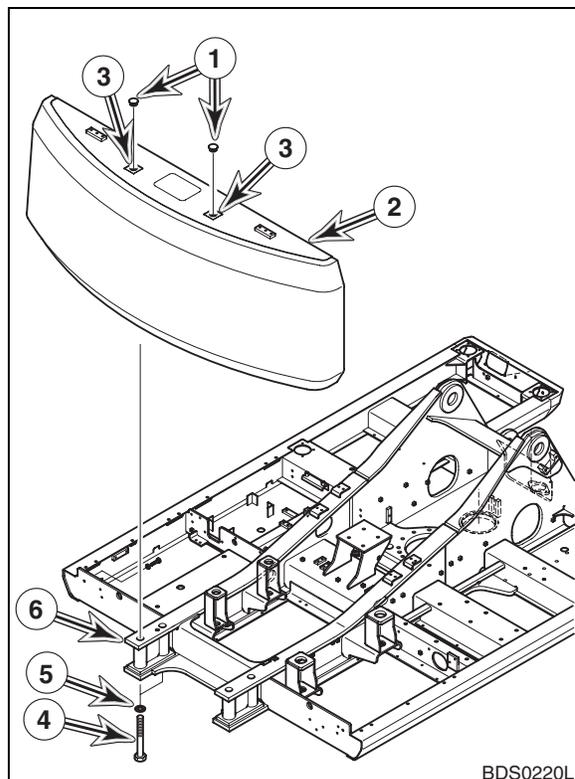

Figure 5
2. Using suitable lifting device capable of handling load, raise counterweight (2, Figure 5) into position just above support frame (6) leaving counterweight suspended. Verify that counterweight is level and even.
**NOTE:** Leave counterweight (2, Figure 5) suspended 3 mm (0.125") above support frame (6) until all four mounting bolts (4) are started in counterweight mounting holes.
3. Slide washers/spacers (5, Figure 5) onto bolts (4). Apply Loctite #242 to mounting bolt threads.
4. Install four bolts (4, Figure 5) with washers/spacers (5) into counterweight until washers/spacers contact support frame. Fully lower counterweight onto support frame and finish tightening bolts.
**NOTE:** Tighten bolts (4, Figure 5) to values shown in following table.
5. Remove lifting device and lifting eyes from counterweight lifting holes (3, Figure 5).
6. Install two caps (1, Figure 5) in lifting holes (3).